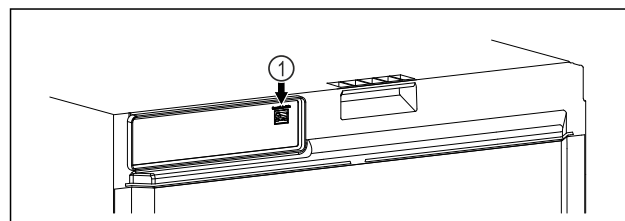

Fig. 104
- SmartModule Fig. 104 (1) is inserted.